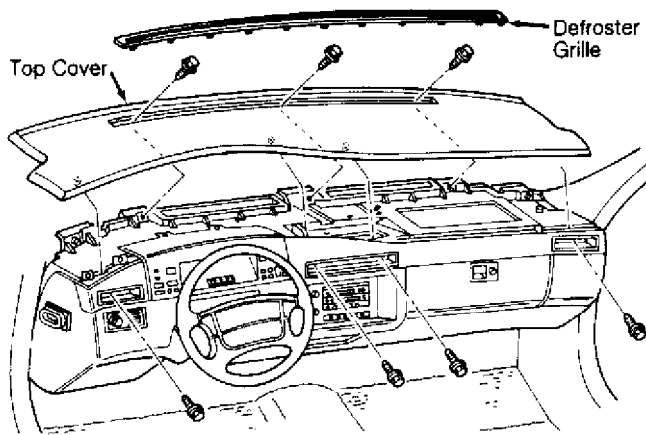
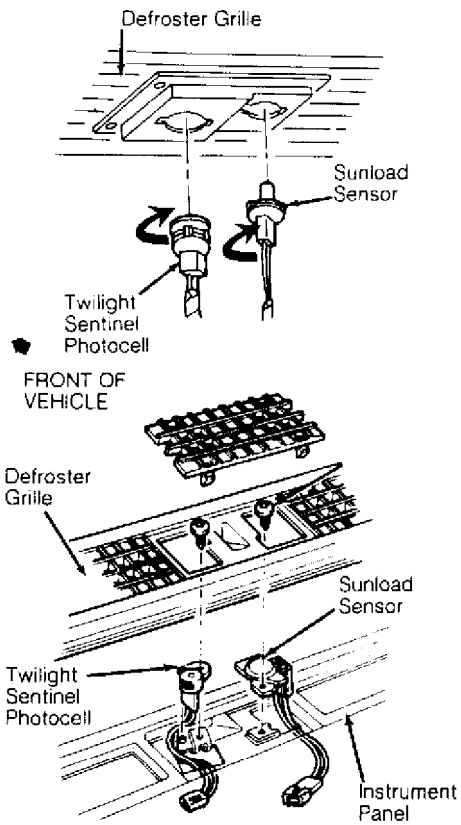

Fig. 15: Removing Instrument Panel Top Cover
Fig. 16: Removing Sunload Sensor & Twilight Sentinel Photocell
1) Raise long defroster grille by carefully prying upward using small, flat-blade screwdriver. See Fig. 15. Depending on interior trim, sunload sensor and twilight sentinel photocell may need to be removed from bottom of defroster grille, before removing grille from vehicle. See Fig. 16.